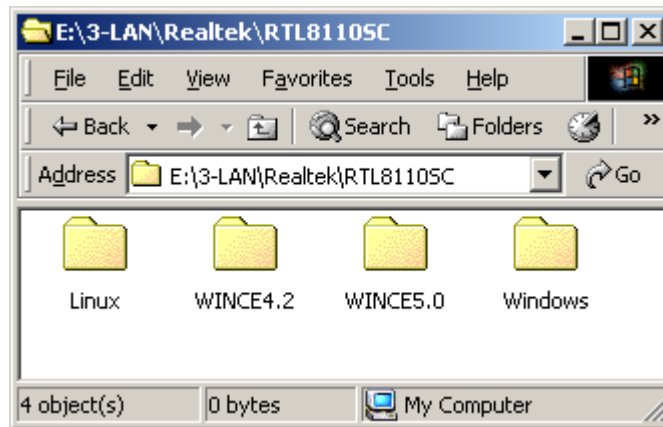

Figure 7-29: RTL8110SC Folder
Step 4: Double-click the **Realtek** folder and a new window opens (**Figure 7-29**).